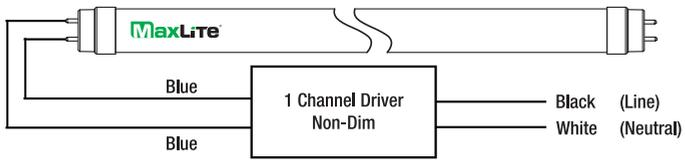

Figure 2a
Step 10: Install your new LED T8 lamps, see Figure 2a or 2b or 2c for single or multiple lamp installation.